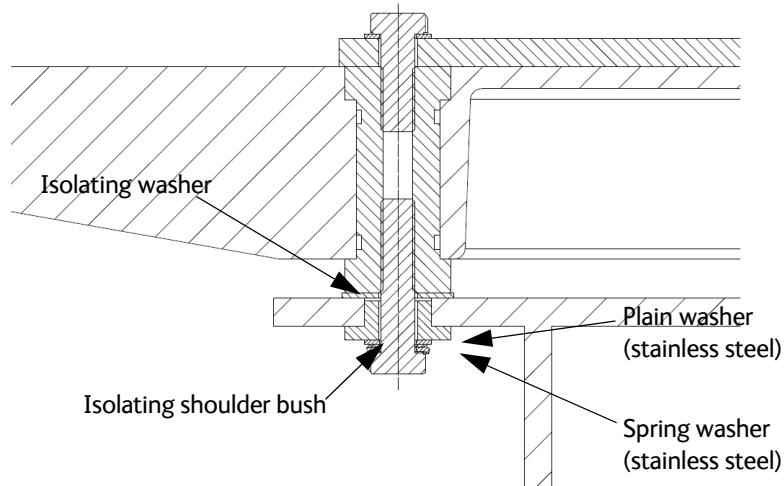

Figure B-6: Isolation of the ADU from the mounting base
4. If the ADU is to be isolated from the mounting base, use shoulder bushings and washer, see figure B-6, *Isolation of the ADU from the mounting base* on page B-9.